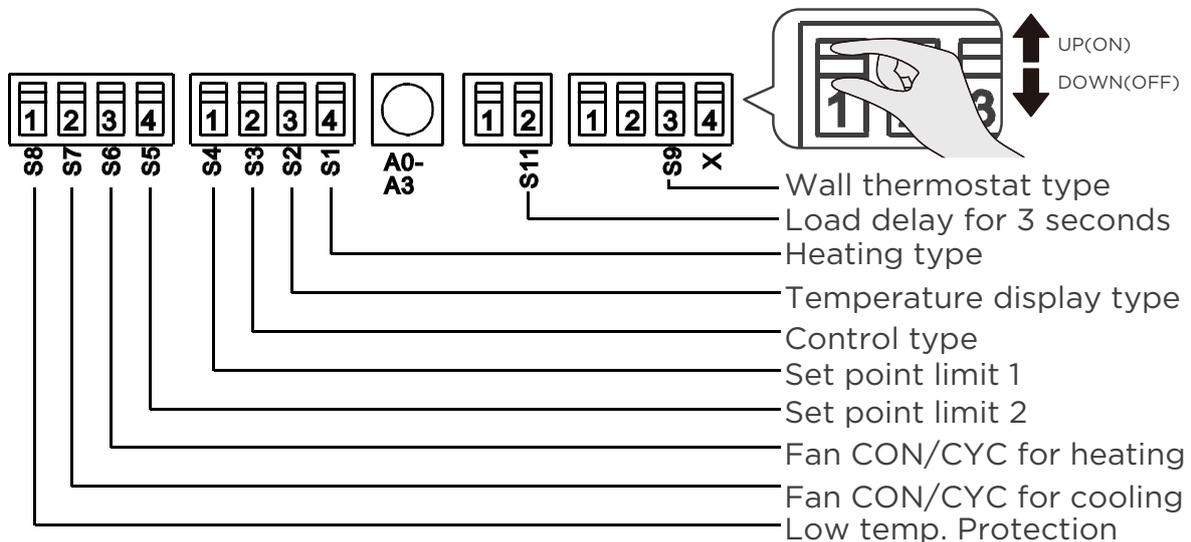

Fig.4
- See Table 1 (the next page) and Fig.4 for Dip Switches configurations and functions of each dip switch position.
- Press the up and down buttons together for 3 seconds to activate the dip switches configurations by panel control (see Fig.4).
- Display function settings with 2 digitals in LED display window, high (left) for dip switches, low (right) for functions (see Fig.4).